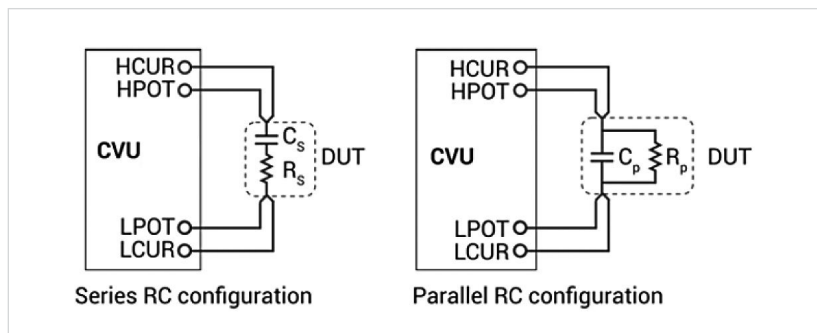

Figure 3. Simplified measurement models
Typical models of a measurement DUT are usually a series or parallel resistance-capacitance (RC) circuit. As shown in the simplified models in **Figure 3**, the CVU can measure the DUT as a series configuration ($R_S C_S$) or as a parallel configuration ($R_P C_P$).